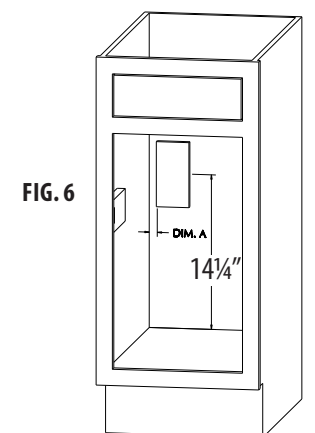
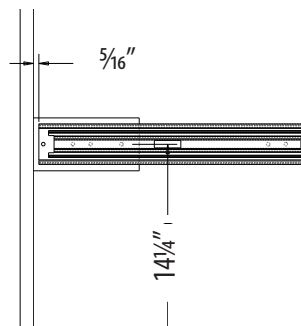

FIG. 6
FIG. 7
7. If rear cabinet wall is thinner than 1/2", install a 1/2" x 3" x 6" wide furring strip to the back of cabinet centered 14 1/4" from cabinet floor and "Dim. A" away from the side cabinet wall (see fig. 6).
8. Install front of slide on this mark with the center of the slide at 14 1/4" from cabinet floor (see fig. 6) using any of the front holes and provided #8 x 5/8" screw (both sides) (see fig. 7).